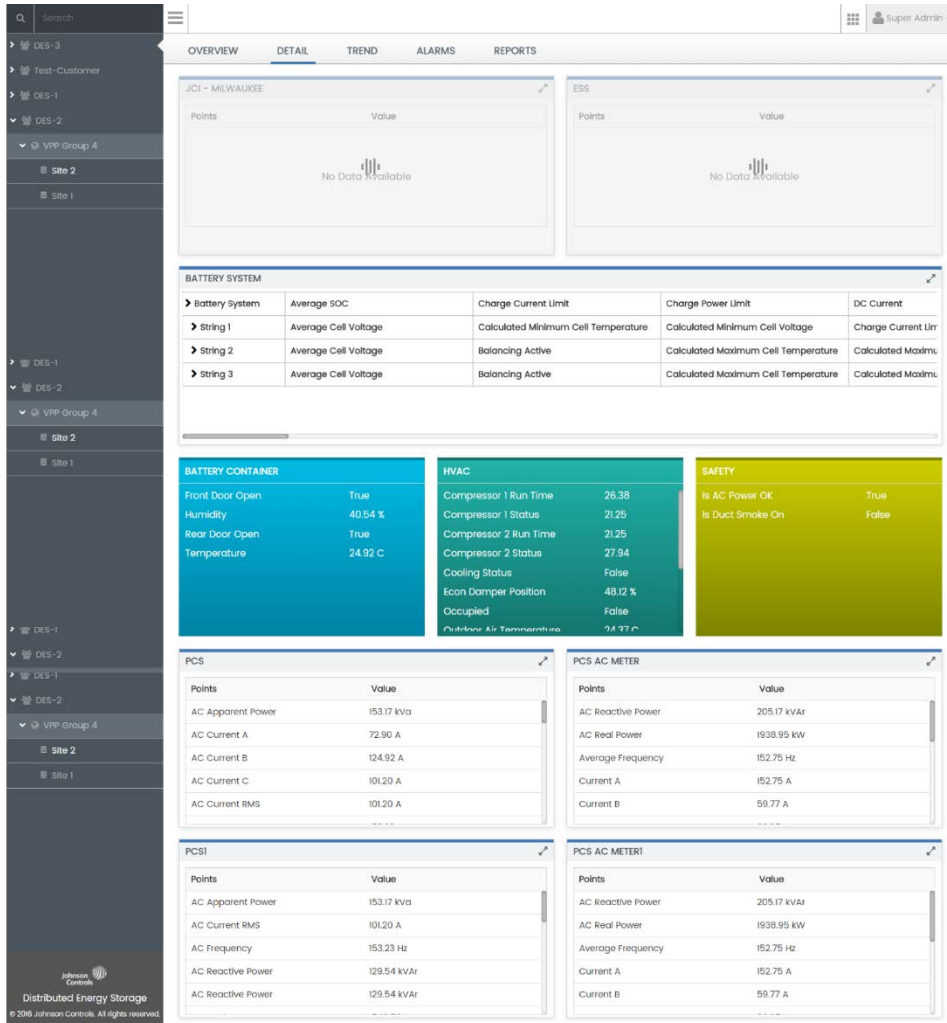

Figure 8: DES Details screen
- **Mapview Screen** – Provides an at-a-glance view of all sites mapped to their location. Each mapped site is color coded to indicate its state and provide an operator a summary view of the state of the systems they are authorized to view. Tooltips show additional site details and links to view detailed information. Figure 8 presents a mapview screen.